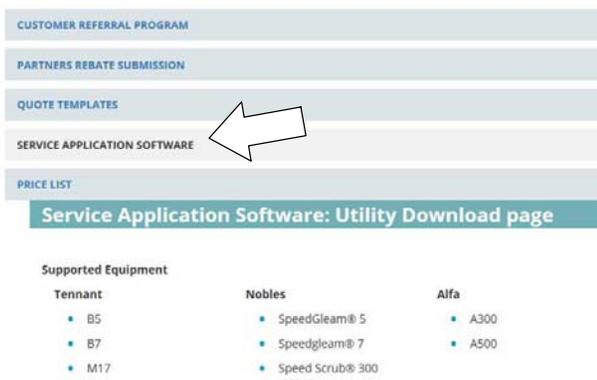

Fig. 23
3. Click on the “SERVICE APPLICATION SOFTWARE” link as shown below (Figure 23).